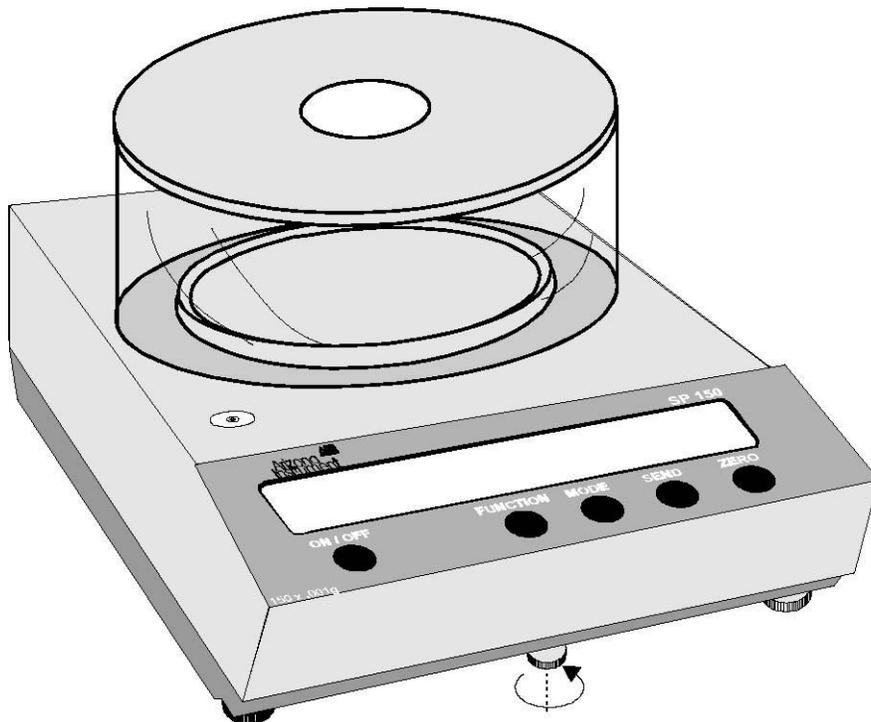

Figure 1 - Unlocking Clamping Screw
AZI SP-150 balances are equipped with a special clamping screw that locks the balance suspension during shipping. This screw must be loosened before the balance can be operated (see Figure 1).
- Turn the knob, approximately one (1) turn counter clockwise, as shown in Figure 1, until it stops.